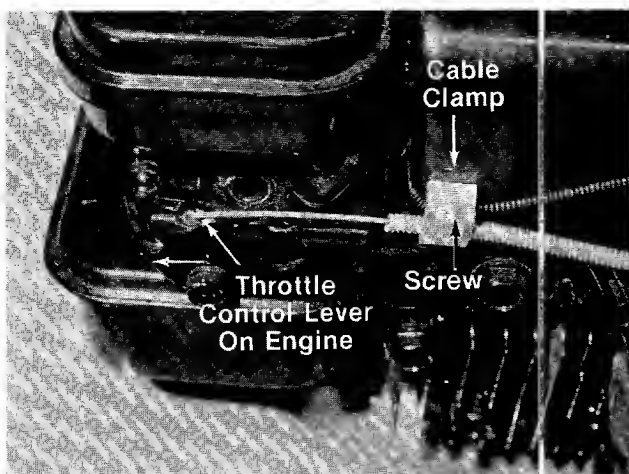

FIGURE 7.
9. Place the throttle control lever on the handle in "Fast" position. Refer to figure 7.
10. Push the throttle control lever on the engine to the full open position (as far toward the outside of the unit as it will go) as shown in figure 7.
12. Loosen (do not remove) the screw on the cable clamp shown in figure 7. Slip the control casing under the clamp. With the throttle lever on the engine still in the full open position, tighten the screw to secure the throttle control cable.
1. Loosen, but do not remove, screw securing throttle control wire assembly at engine. See figure 7.